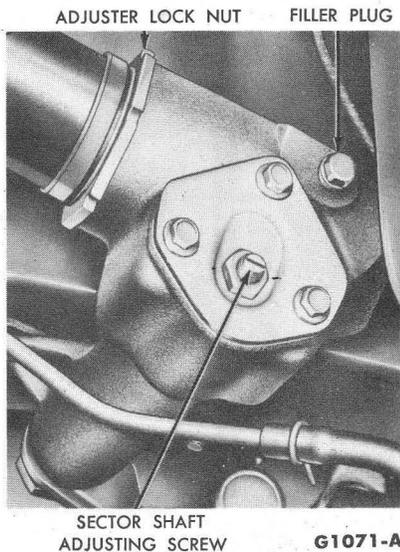

FIG. 1—Steering Gear Adjustment
6. Loosen the nut which locks the sector adjusting screw (Fig. 1), and turn the adjusting screw counterclockwise.